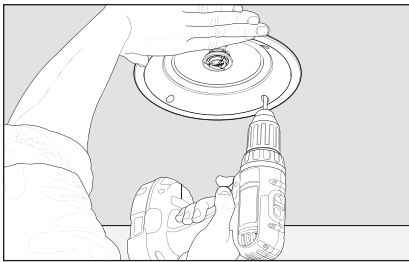

Fig. 5d
10. Supporting the assembly with one hand, tighten each screw. Stop tightening when you sense resistance (Figs. 5d & 6d). **ML-62i and ML-67i:** Before tightening screws orient speaker so the drivers are positioned towards the desired position.